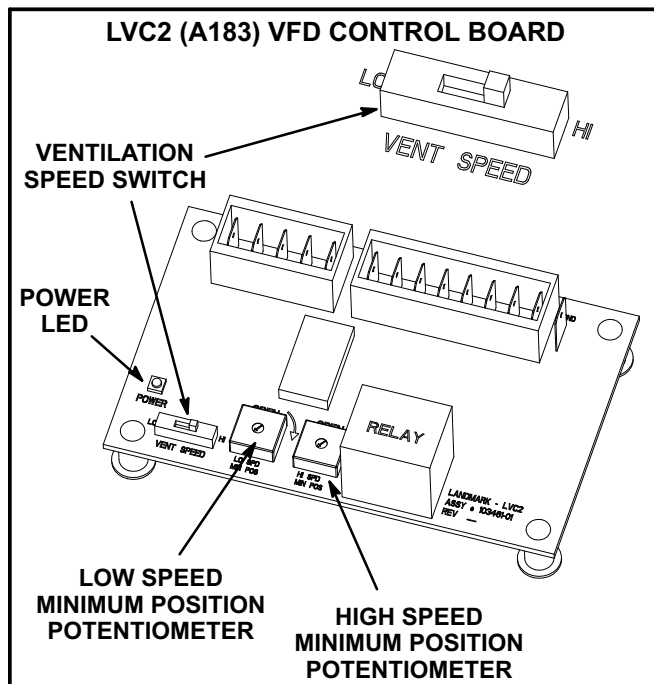

FIGURE 16
To save energy during ventilation, the blower speed can be set to low. This is accomplished by changing the ventilation speed switch on the VFD control board to “LO”. See figure 16.
To maintain required minimum ventilation air volumes when the unit is in the occupied mode, two minimum damper positions must be set. A high and a low speed potentiometer are provided on the VFD control board to adjust minimum damper position. See figure 16. The low speed minimum damper position is used for both low and medium blower speeds as standard economizers only offer 2 damper positions.
- 5- Check the power LED on the board. See figure 16.
- 8- When LVC2 24VAC thermostat blower (G) input and 24VDC power are present, check the LVC2 low and high speed outputs. The LVC2 uses inverse logic to enable the blower; 1VDC will be read at the enabled blower speed terminal. See table 11.